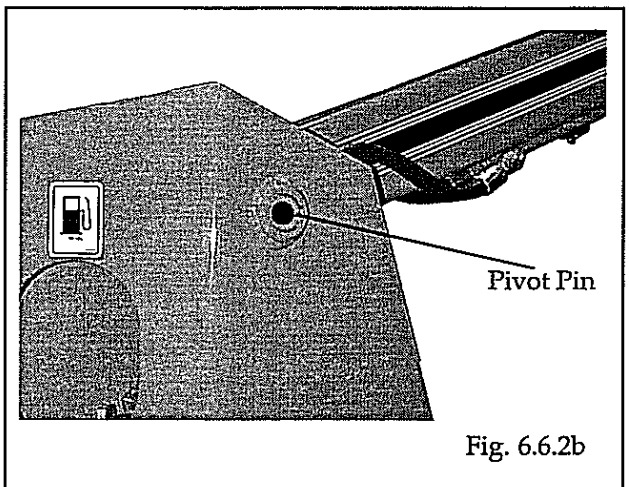

Fig. 6.6.2b
6. Coat with antisieze and install the pivot pins in the boom arms and lift cylinders (Fig. 6.6.2b).